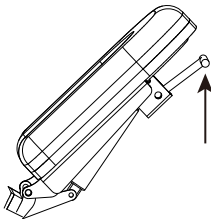

Figure 3
- As shown in Figure 3, pull the control lever (in the direction shown by the arrow) to adjust the angle of the head plate.